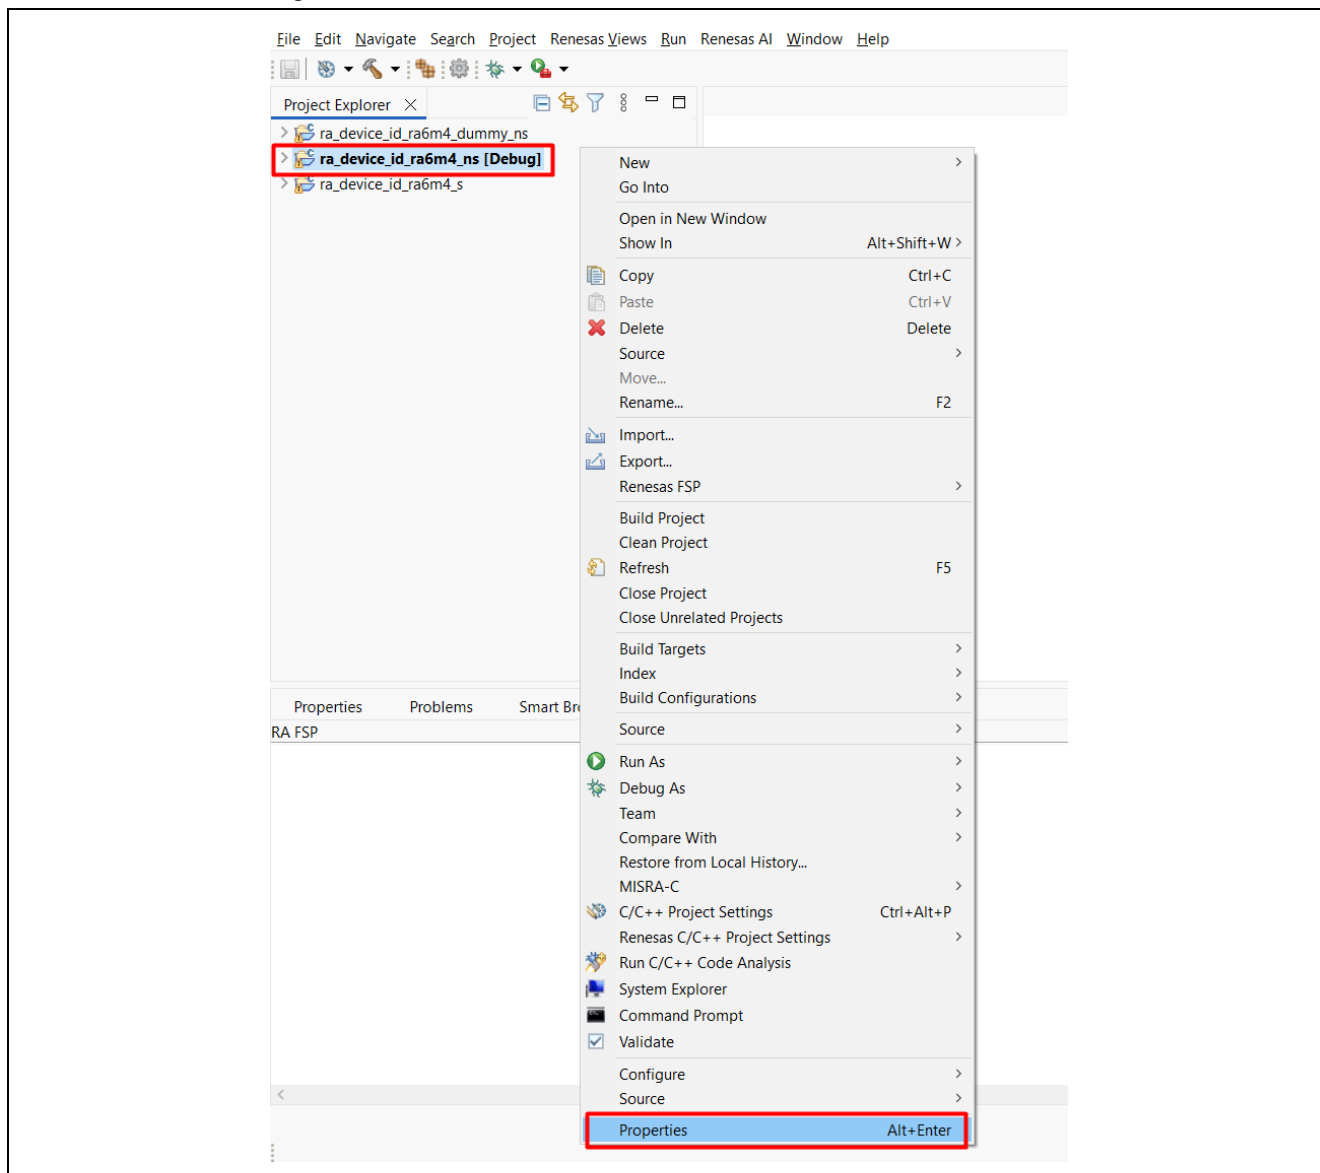

Figure 11. Open the Properties Menu
- A. Update the matching secure bundle based on current project folder location. The secure bundle is linked as an absolute path. Right click on **ra_device_id_ra6m4_ns** project and select **Properties** as shown in Figure 11.